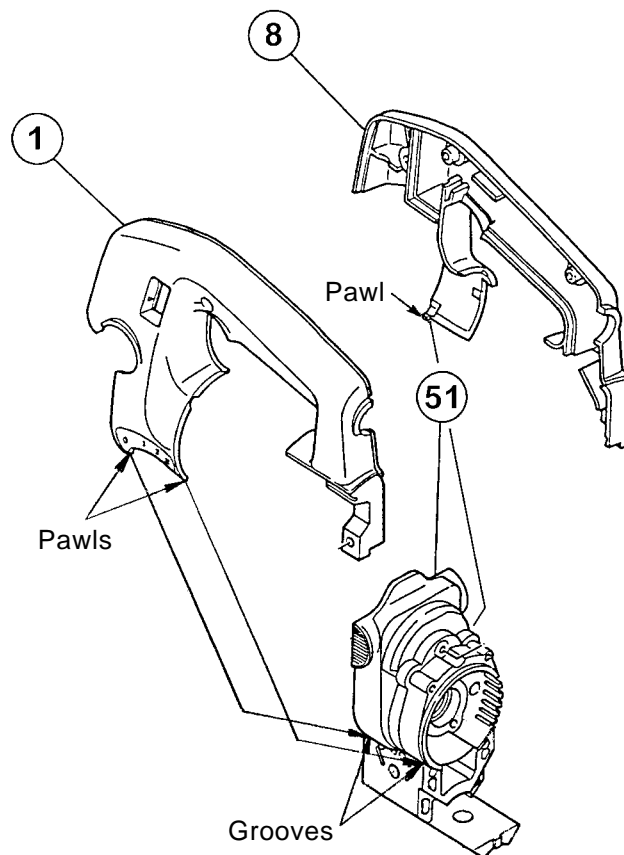

Fig. 18
- (8) Install Handle (A) [1] and Handle (B) [8] so that their pawls (two on Handle (A), one on Handle (B)) are properly inserted into the grooves provided on the Gear Cover [51] (Fig. 18).